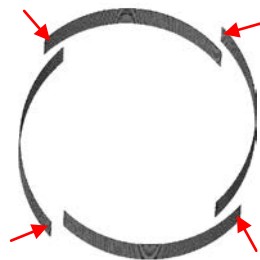

Figure 8
2. Set the top ring of the hopper sheets in a circle as shown in Figures 8 and 9. **Make sure the horizontal side with the most holes is to the top.**